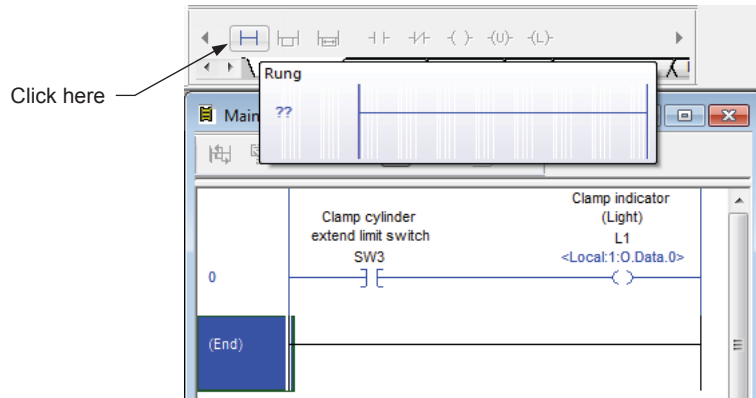

Figure 104. Adding a rung.
16. Insert a rung. One way to do so is by clicking the corresponding icon in the *Language Element* menu (Figure 104).